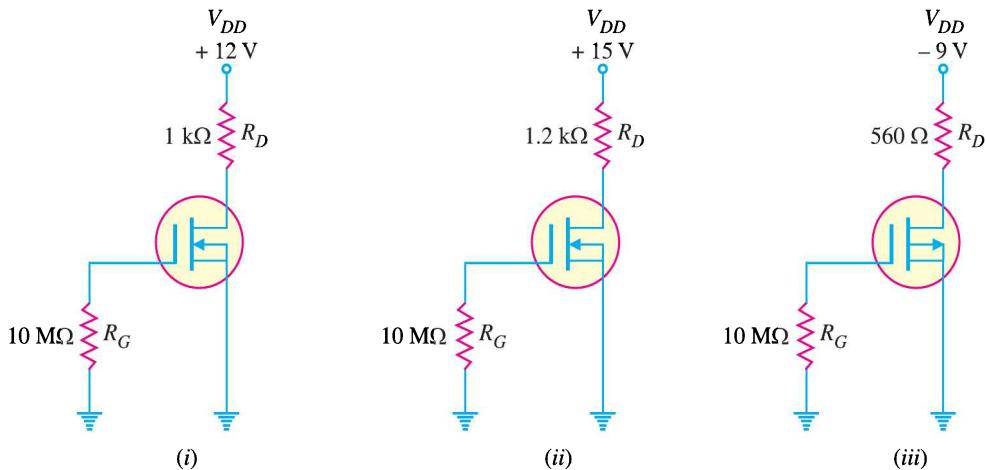

Fig. 19.67
9. Determine  $V_{DS}$  for each circuit in Fig. 19.67. Given  $I_{DSS} = 8 \text{ mA}$ . [ (i) 4V (ii) 5.4V (iii) -4.52V ]